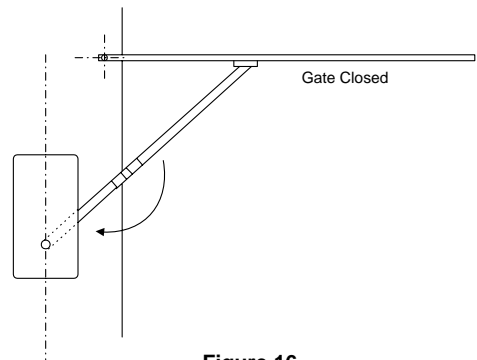

Figure 16
- When the gate is fully closed, the drive and connecting arms should be in a straight line as shown in Figure 16.